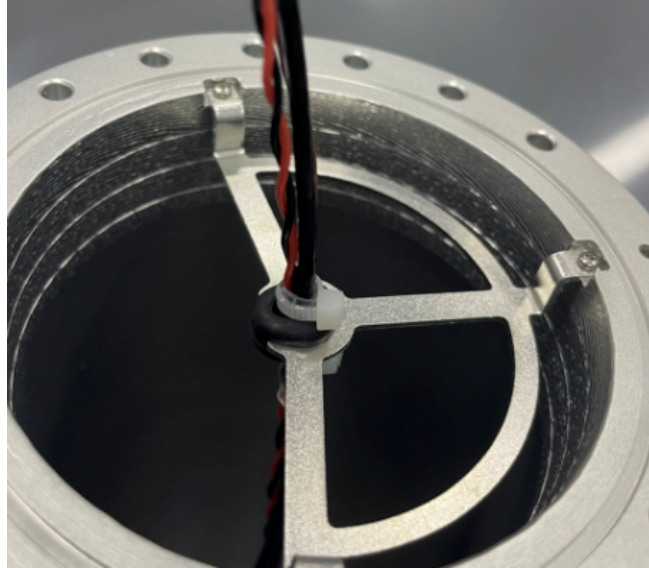

Figure 3-21 : Link cable installation
- Place the retaining ring in the middle hole of the wire rack, as shown in **Figure 3-21** :